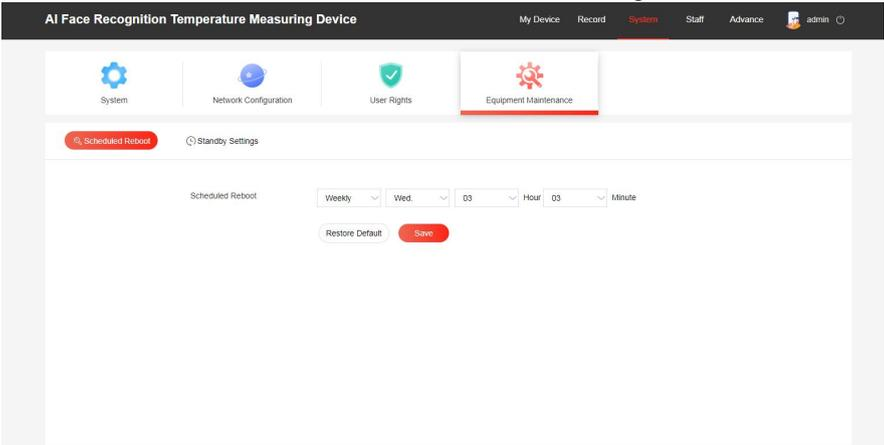

Figure 7-20
Step 1: After logging in to the web page, click "System → Equipment Maintenance → Scheduled Reboot" to scheduled reboot interface, as shown in Figure 7-20 below.